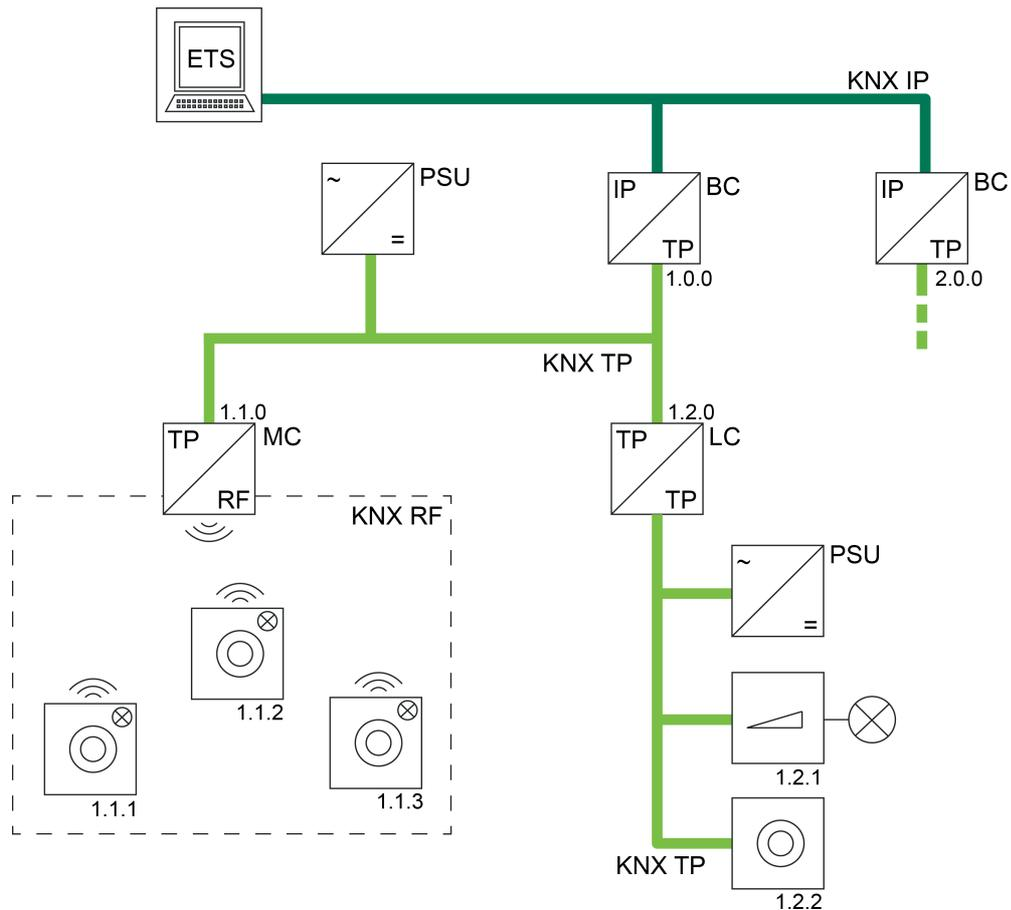

Figure 43: Example of a possible KNX topology with one KNX IP connection of the ETS (KNXnet/IP)
- Use of a KNX IP data interface (KNXnet/IP) (figure 43):